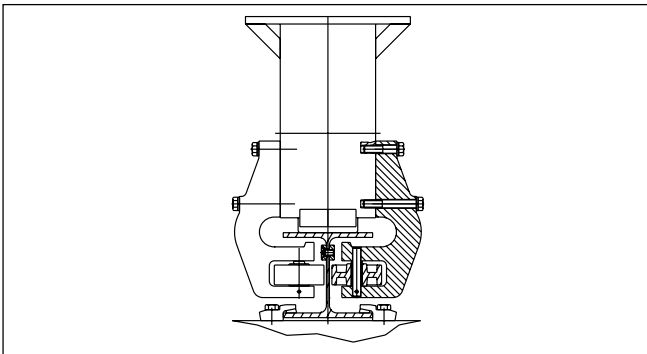

Fig. 5 - Traversing on rails
Generally, only the 2 wheels on the facade are powered. The trolley is guided along the track by guide wheels (8) placed laterally on the roller frames (Fig. 5).